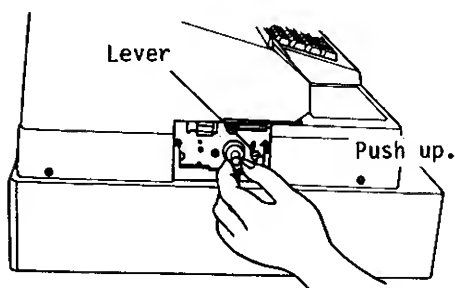

Fig. 3
4. Insert a new Ink Roll into the hole, push it all the way in, and push up the lever. (Fig. 3)